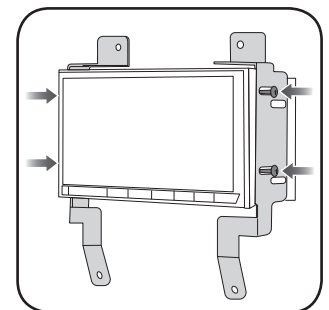

Fig. 3.8
8. Place the EDG2 radio brackets on to the aftermarket radio and secure with the hardware provided with the radio. (Fig. 3.8)